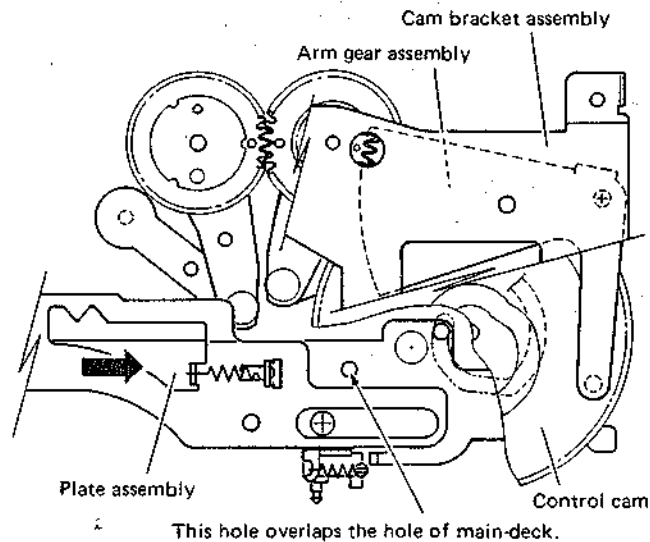

Fig. 1-3-4 Cam bracket assembly
1. Push and hold the plate assembly so that the hole of the plate assembly overlaps the hole of the main-deck, as shown in Fig. 1-3-4.